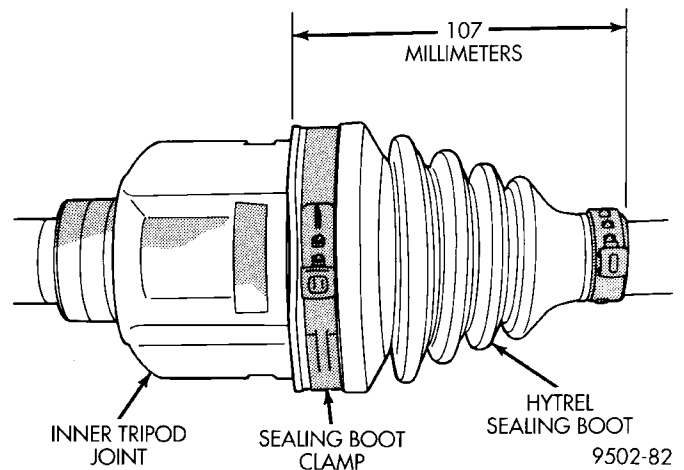
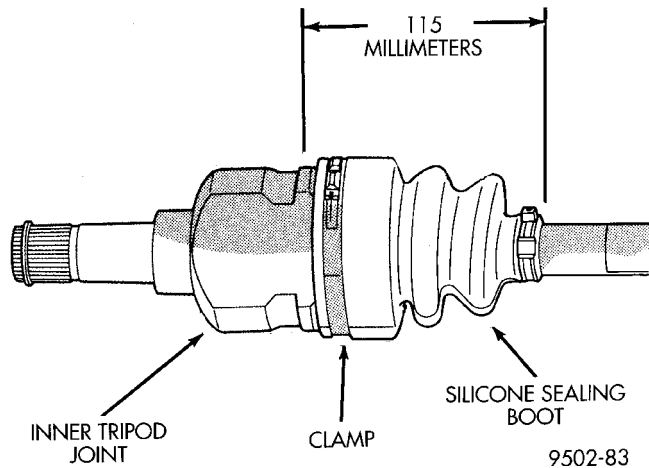

Fig. 38 Sealing Boot End to End Length with Hytrel Boot
Fig. 39 Sealing Boot End to End Length with Silicone Boot
(10) With trim stick inserted between sealing boot and tripod joint housing, position inner tripod joint on driveshaft until correct sealing boot edge to edge length is obtained for type of sealing boot material being used (Fig. 38) (Fig. 39). Then remove the trim stick.